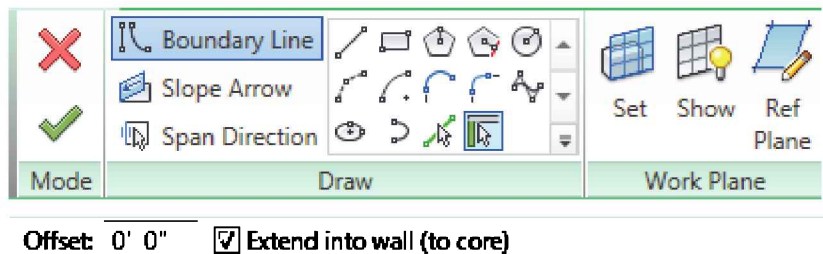

FIGURE 6-3.2 Floor tool; ribbon and options bar settings
7. Make sure the *Ribbon* and *Options Bar* match the settings shown in Figure 6-3.2.